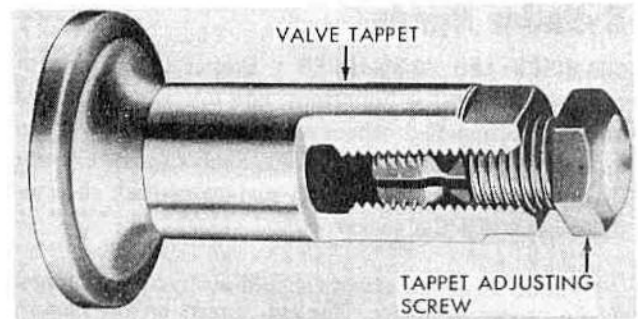
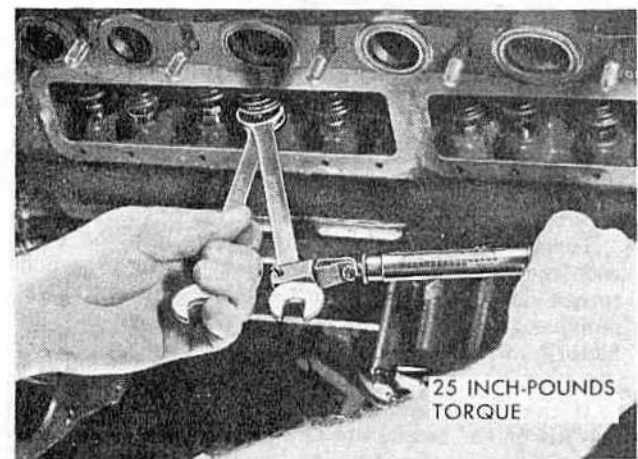

FIG. 169
FIG. 170
**CHAMPION AND COMMANDER** The slotted tappet adjusting screw of the Champion is self-locking (see Fig. 169), whereas the adjusting screw on the Commander requires a lock nut. When a Champion tappet adjusting screw is replaced, the torque required to turn the screw should be measured. A force of at least 25 inch-pounds (0,29 kilogram-meters) should be required to turn the screw (see Fig. 170). This is approximately a 4-pound (1,814 kgs.) pull at the end of a 6" (152,4 mm.) wrench.